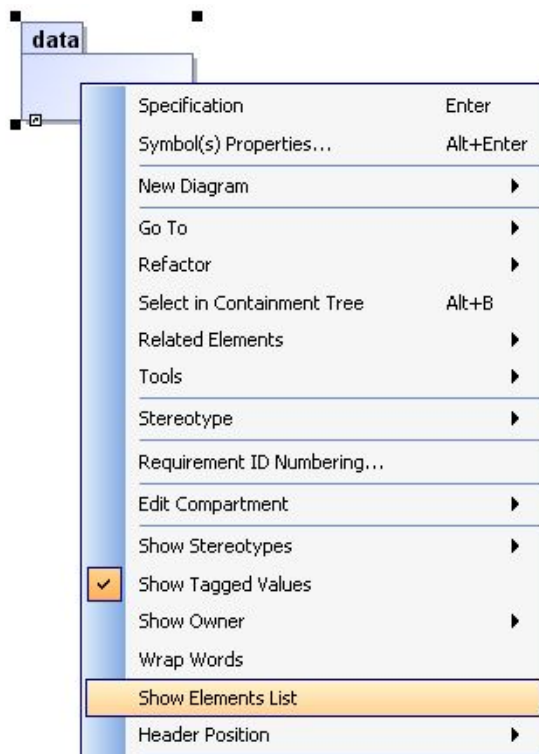

Figure 119 -- Package Shortcut Menu: Show Elements List
1. Right-click a package and select **Show Elements List** on the shortcut menu (Figure 119).